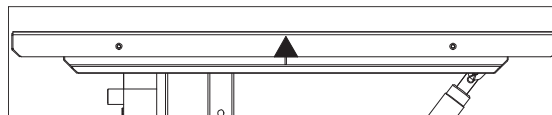
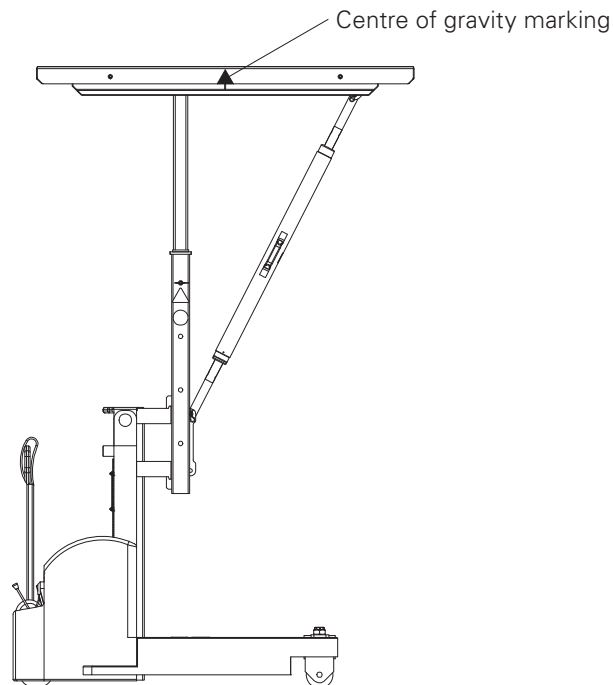
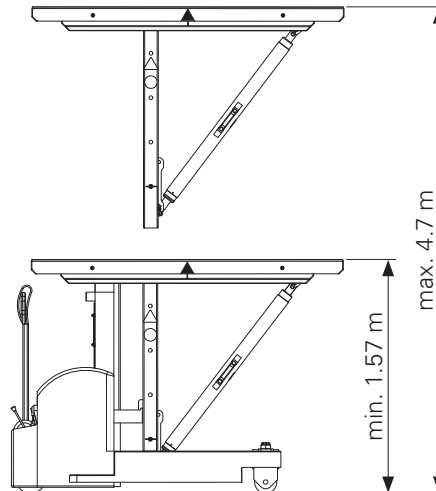

Fig. A9.04a
Fig. A9.06a
Fig. A9.08a
- Adjust the PERI Table Lift PTL (56) to the required height: level 1, 2, 3 or 4. (Fig. A9.08a – d)
- Position the PERI Table Lift PTL (56) under the slab table and support the slab table.
- Lift the slab table (1) at the centre of gravity. (Fig. A9.04a + Fig. A9.06a)